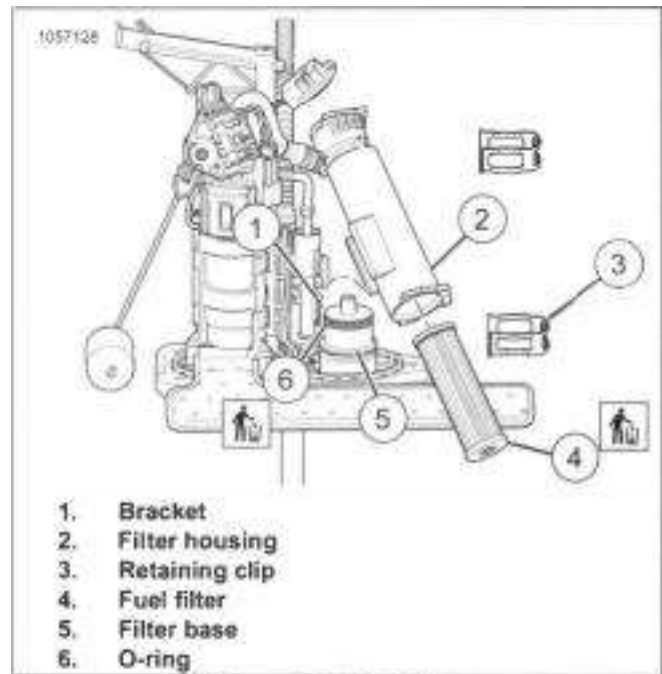

Figure 6-22. Fuel Filter
- See Figure 6-22. Remove filter housing.
- Remove retaining clip (3).
- Remove filter housing (2) from filter base (5).
- Remove and discard fuel filter (4).
- Remove and discard O-ring (6).
- See Figure 6-22 Install **new** filter (4).
- Install **new** O-ring (6).
- Install filter housing (2) onto filter base (5) and bracket (1).
- Install filter housing retaining clip (3).